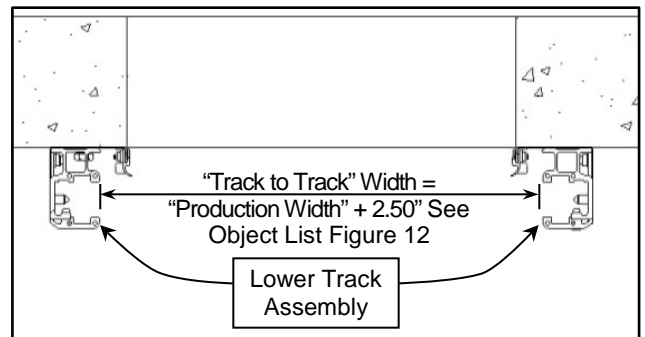
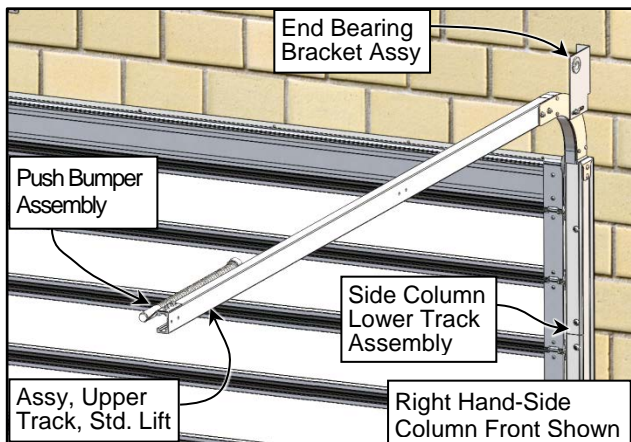

Figure 44
Figure 47
8. Check & confirm the alignment between the Upper & Lower track assemblies are plum, level, square, and true. Also check the Track to Track width as given in the Object List. The width between the guide rail track assemblies must be maintained at all points. Adjust as necessary. (See Figure 12, Figure 44, and Figure 47)